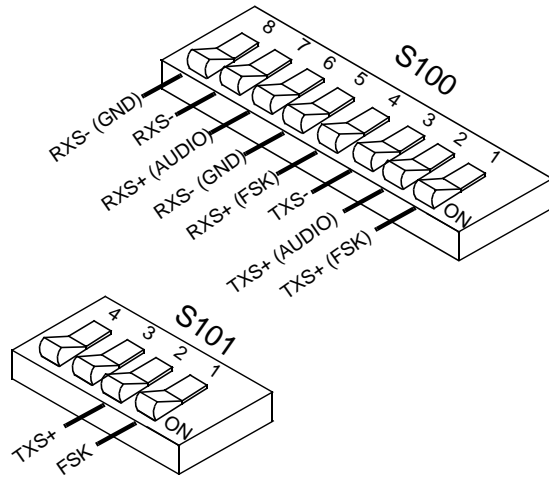

Figure 7-22 S100/S101 SWITCH SETTING
1. **On the MAC**, set S100 and S101, all Sections OFF (see Figure 7-22).